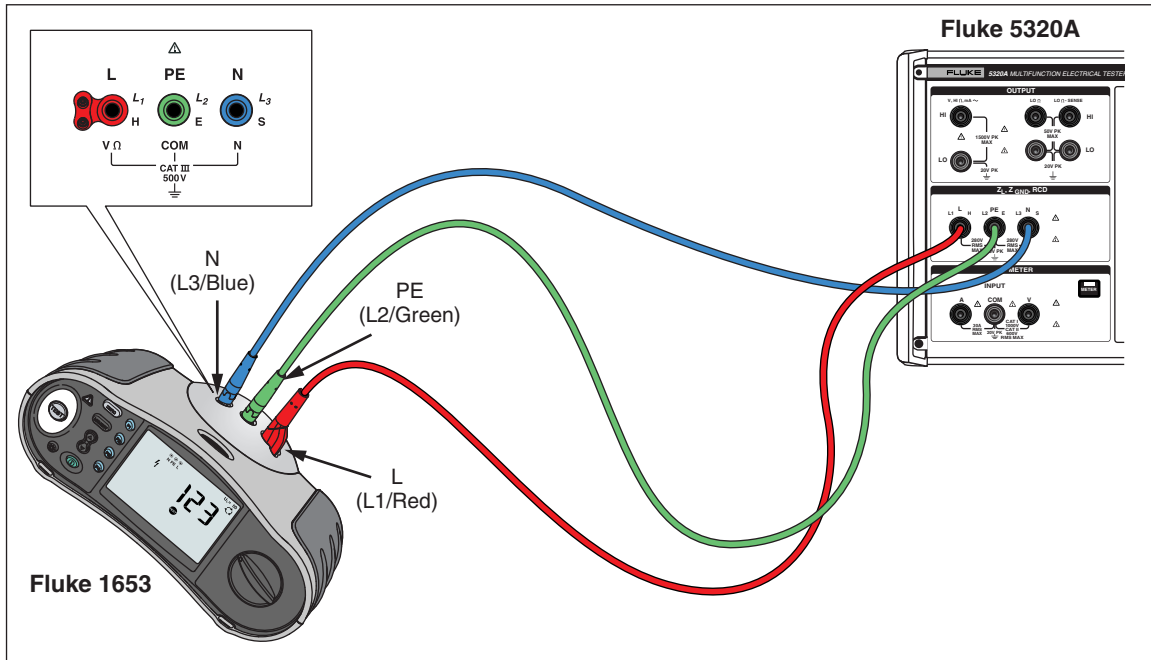

Figure 7-17. RCD Trip Time and Trip Current Calibration
2. Using Figure 7-17, connect the UUT to the Calibrator's **L**, **PE**, and **N** terminals.
1. Using Figure 7-17, connect the UUT to the Calibrator's **L**, **PE**, and **N** terminals.
2. Using Figure 7-17, connect the UUT to the Calibrator’s **L**, **PE**, and **N** terminals.